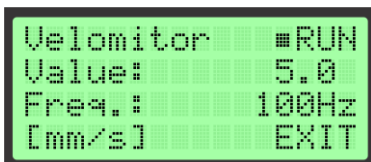

Figure 98 Calibrator in RUN Mode
After the desired Velomitor parameter is adjusted, this selection is confirmed by pressing Enter (E). Pointing to RUN and pressing Enter (E) will start generating of the Velomitor Output (See Figure 98).